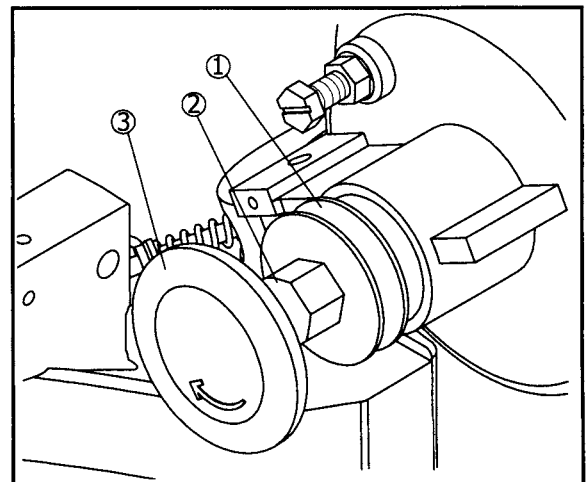

Fig. 20
Fix the motor pulley①with the handwheel shaft②. Fix the handwheel③to the handwheel shaft②. (Fig. 20)
將馬達皮帶輪①裝在手輪軸②。再將手輪③裝在手輪軸②。(Fig. 20)